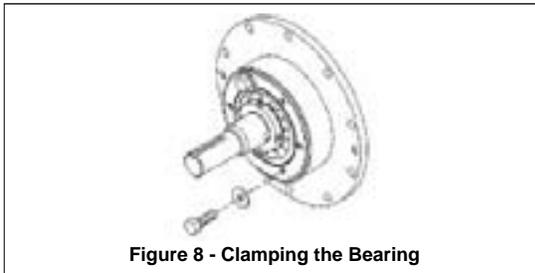

Figure 8 - Clamping the Bearing
- Hand pack the ball bearing (24) with grease. Refer to the "Lubrication" section for the recommended grease.
- Install the bearing (24) into the head recess. The bearing balls must face outward, with the grease shield inward. Ensure the bearing is fully and squarely seated against the lip seal housing (152B) or mechanical seal (153). On TXV pump models, install two 3/8" (10 mm) washers and two bearing cover capscrews (28) to clamp the bearing and compress the lip seal housing inner O-ring (152E) for proper bearing locknut adjustment (see Figure 8). The washers and capscrews will be removed after the locknuts are adjusted.